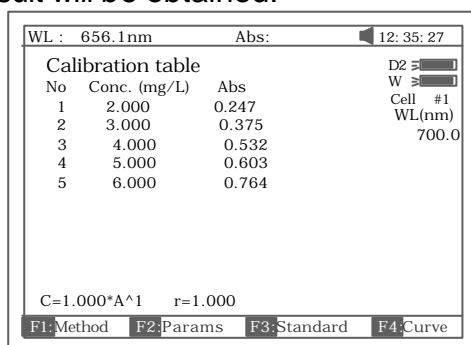

Fig 33
3.3.3 Pull the first sample cuvette of known concentration into the light path, Press the key **【START】** to get values of standard curve one by one (Fig 33).
In Fig 33 press **【Load】** and then press **【】** or **【】** to select the file with type *****.fit**. At last press **【ENTER】** to confirm.